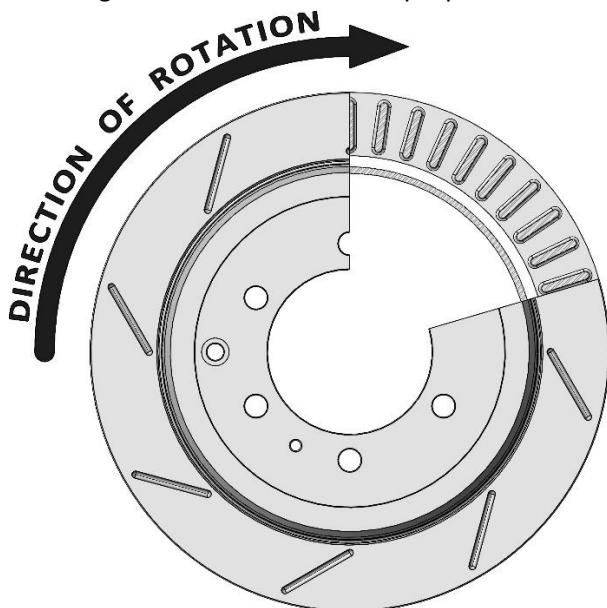
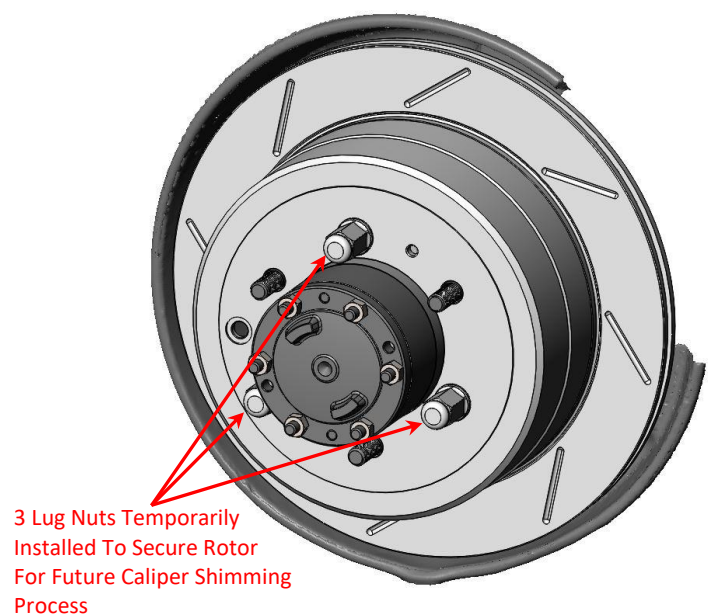

Figure 2a – Proper Rotor Direction (RH Shown)
Figure 2b – Proper Rotor Installed (RH Shown)
- Next install the rotor onto the hub assembly. Use three lug nuts when installing to hold the rotor tight against the hub. This will allow for accurate shimming of the calipers, which will be done in a later step. The rotors are LH and RH side specific, when installing be sure to follow the direction of rotation as indicated below in Figure 2a. Figure 2b below shows the proper rotor installation.